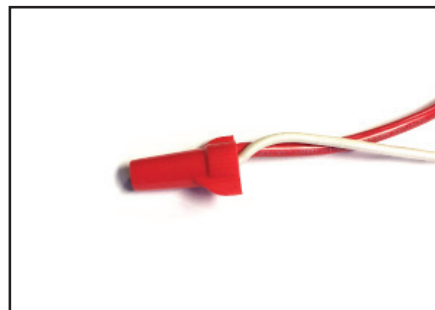

Figure 5
8. Place a new red wire nut over the wires and screw it into place. Ensure there is no exposed copper. The finished assembly should look like Figure 5.